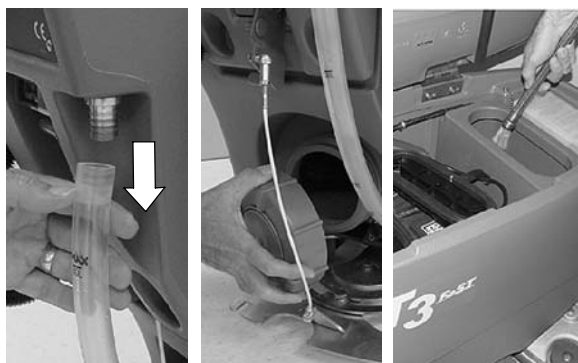

FIG. 39
3. Drain the solution tank and rinse out the inside with hot water, 60°C (140°F) maximum temperature, as needed (Figure 39)